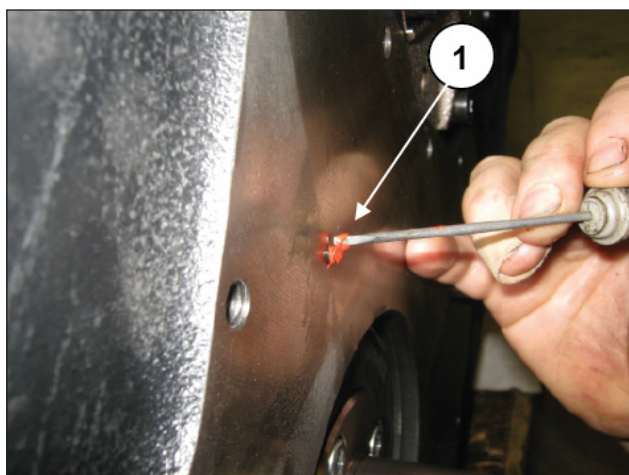
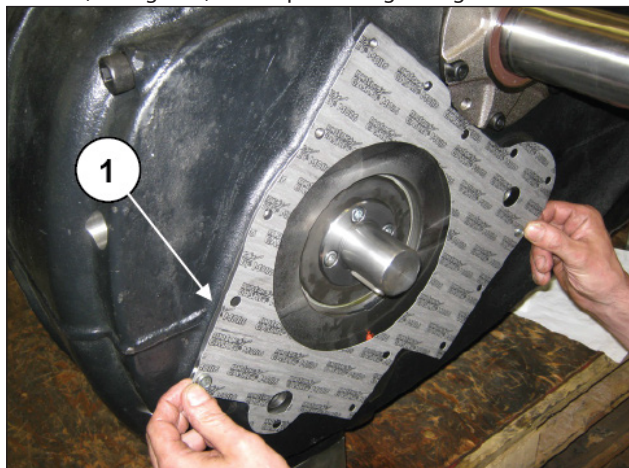

Fig. 116
Fig. 126
**Smear a silicone sealant such as MOTORSIL D (Arexons) over all the areas of protrusion of the O-rings in contact with the flat gaskets (Fig. 116, pos. ①).**
Fit the crankshaft cover with associated gasket (after smearing silicone sealant - see Fig. 116 - on the protruding O-rings, and then tighten the M8 fixing screw (pos. ①, Fig. 121 - Fig. 122).
Fit the flat gasket (pos. ①, Fig. 126) after smearing silicone sealant (see Fig. 116) on the protruding O-rings.